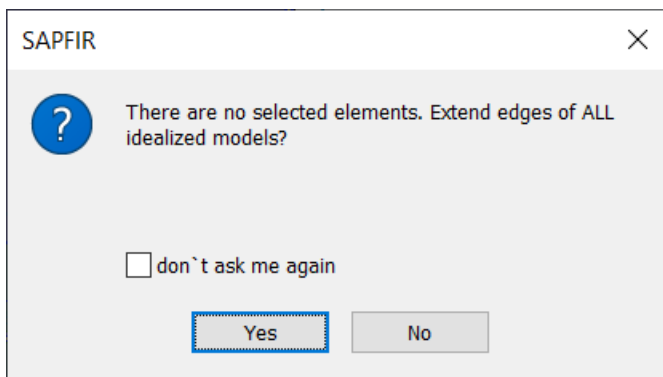

Figure 23.30. SAPFIR message box
- ⇒ In the SAPFIR message box (see Fig. 23.30), click **Yes**.